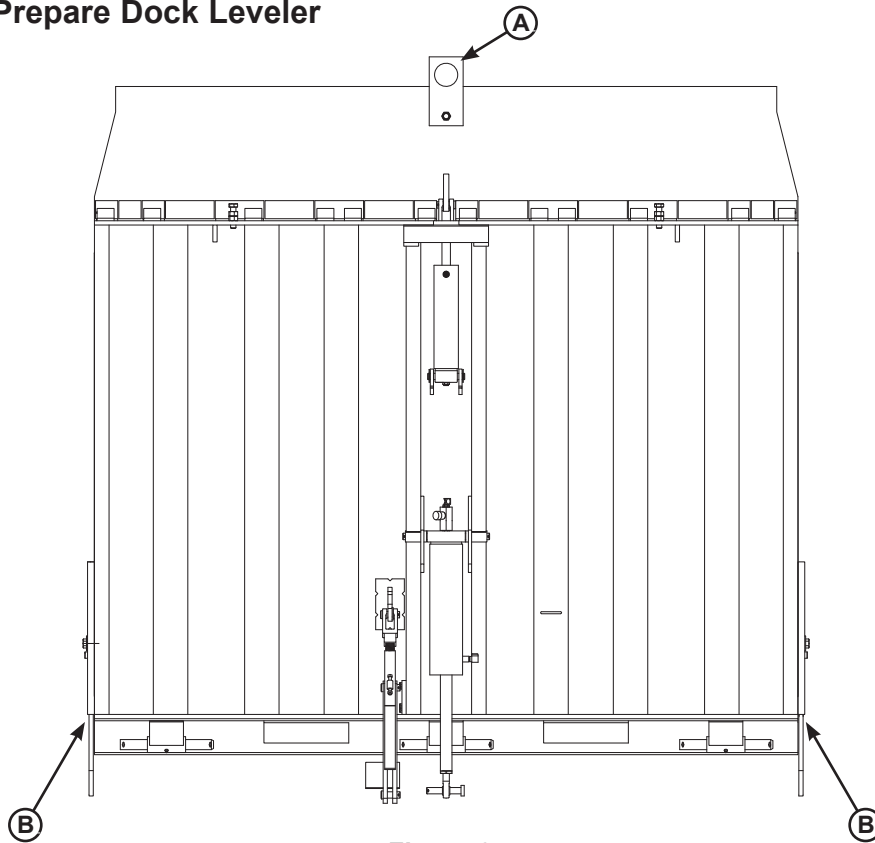

Figure 6
4. Ensure maintenance props (**B**) are in the lowered position and tightly secured (see Figures 6 and 7).